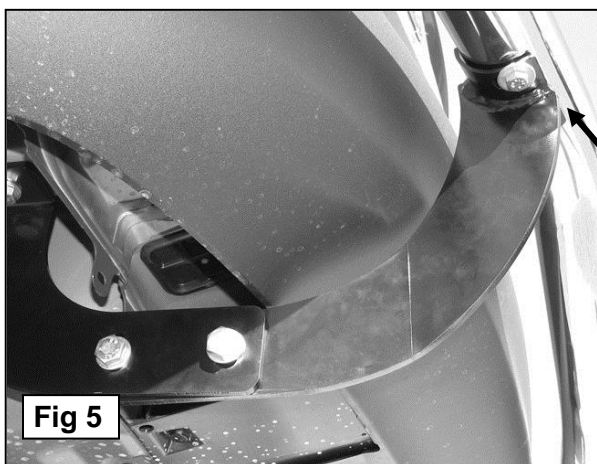

Fig 5
- Carefully position the Rear Bumper Guard onto the Mounting Brackets. Attach the Rear Bumper Guard to the Brackets with the included (4) 8mm x 25mm Hex Bolts, (4) 8mm Lock Washers and (4) 8mm Flat Washers, **(Figure 5)**.